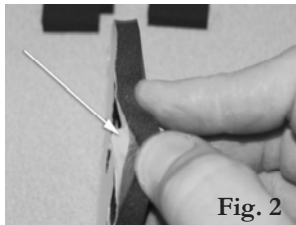

Fig. 2
- 4 Remove paper backing by *carefully* pinching the edge of the gasket and gently pulling away from the paper, taking precautions to *not* rip the gasket (fig. 2)